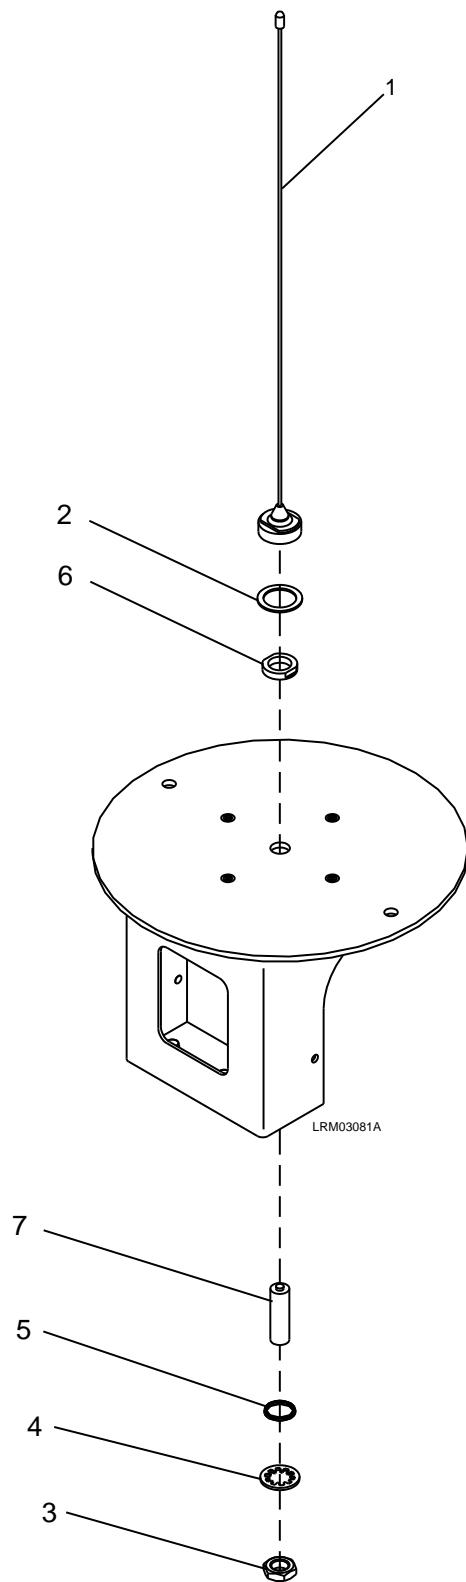

Figure 7-127: Radio Antenna
1. Remove the antenna mast (1) by turning counterclockwise.
2. Remove the gasket (2). See Figure 7-127.
4. Remove the hex nut (3), internal lock washer (4), and O-ring (5).
5. Remove the coupling nut (6) and base (7).